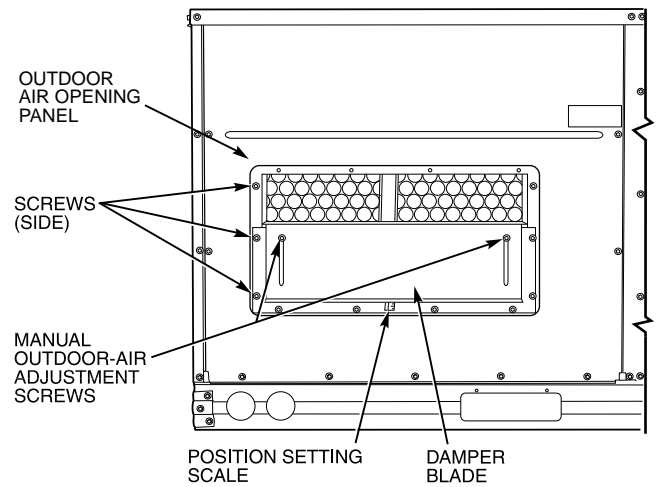
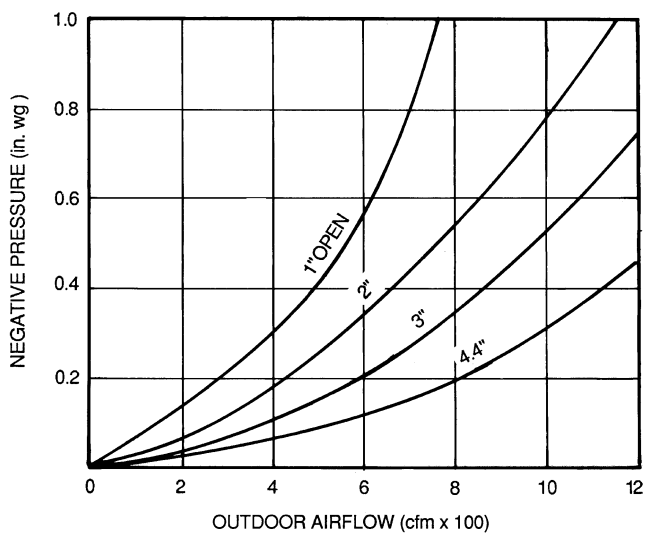

Fig. 14 — Damper Panel with Manual Outdoor-Air Damper Installed
Fig. 17 — Position Setting
2. Remove filter access panel by raising panel and swinging panel outward. Panel is now disengaged from track and can be removed. No tools are required to remove the filter access panel. Remove outdoor-air opening panel. Save panels and screws. See Fig. 14.
8. Adjust minimum position setting of the damper blade by adjusting the manual outdoor-air adjustment screws on the front of the damper blade. See Fig. 14. Slide blade vertically until it is in the appropriate position determined by Fig. 17. Tighten screws.